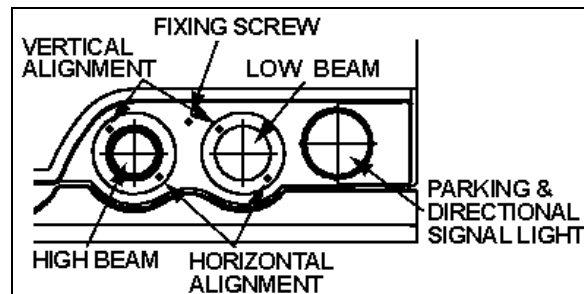

FIGURE 25: HEADLIGHT ASSEMBLY
3. The headlight centerlines shall be spaced either side of the fixed centerline on the screen by  $\frac{1}{2}$  the lateral distance between the light source centers of the pertinent headlights. The horizontal tapes should be located on the screen at the upper and lower limits called for in the specification with reference to the height of beam centers and the plane on which the vehicle rests, not the floor on which the screen rests (Fig. 25).